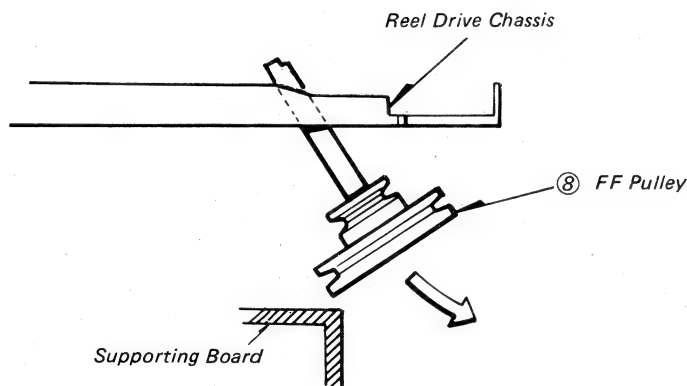

Fig. 5-44 Fast-Forward Pulley Removal.
5. Remove the belts ⑦ and ⑨.
6. Remove the "E" ring ①.
7. Remove the fast-forward idler ②.
8. Take the spring ⑩ out of the hook on the reel chassis.
9. Also, remove the "E" ring ⑤ and take out the fast-forward lever ④.
10. Incline and take the fast-forward lever ④ out toward the position where the push button assembly has been installed (see Fig. 5-44).
- 1:-Care should be observed not to miss the polyethylene sliders ③ and ⑥.
- 2:-Be sure to clean the rubber surface of the fast-forward idler ②, groove of the fast-forward pulley ⑧, and belts ⑦ and ⑨ using the cleaning kit.